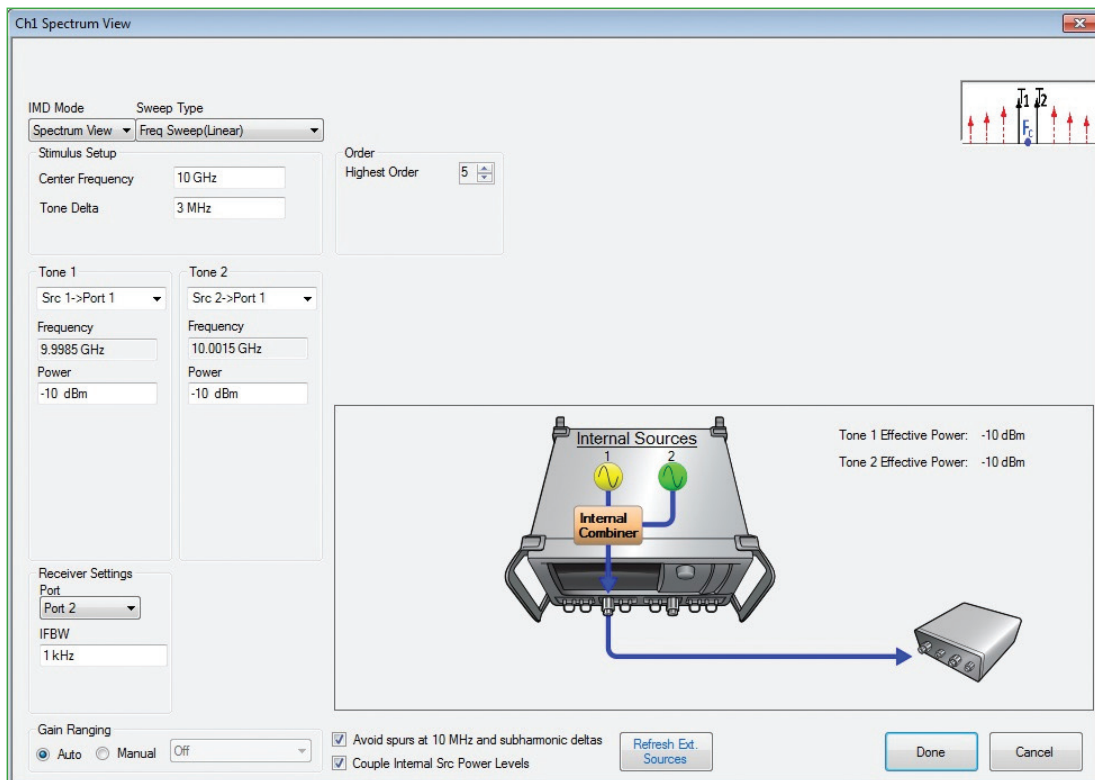

Figure 7: IMDView Configuration Menu
- 2) Configure the measurement as show in Figure 7.